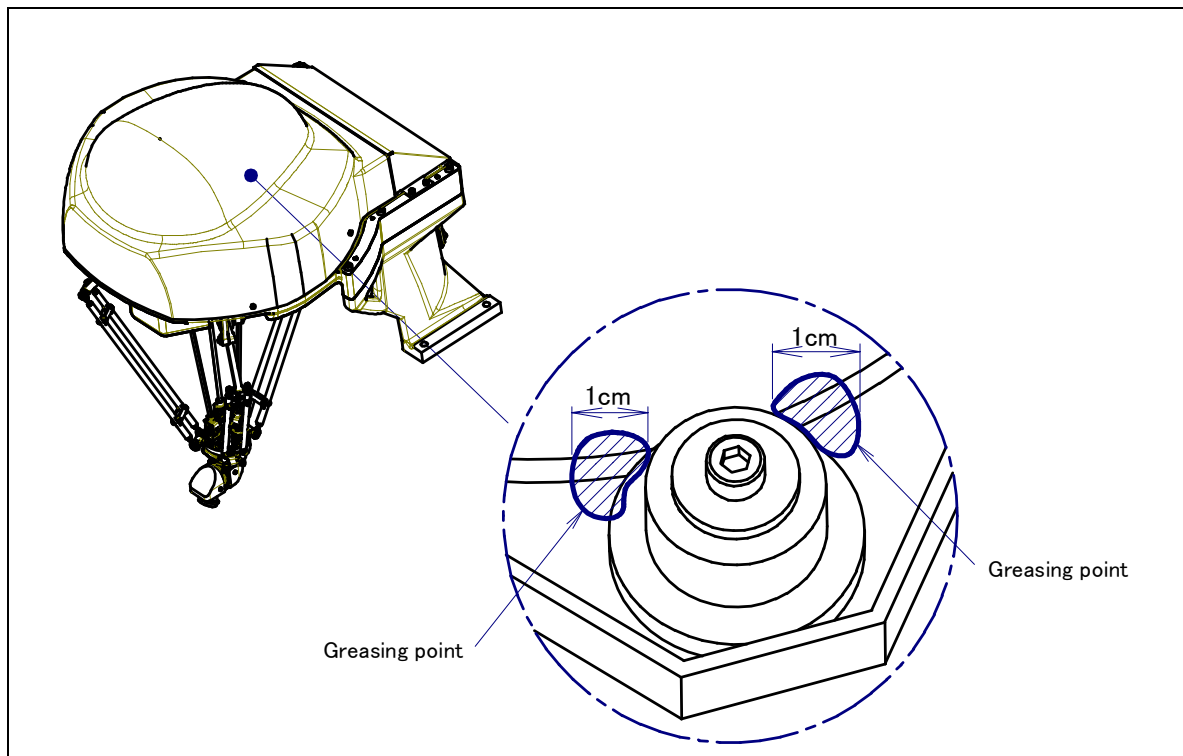

Fig.6.2.2 Supply grease to J4 to J6 gears
- 3 Supply new grease to the gear of J4 to J6-axes referring to Fig.6.2.2.